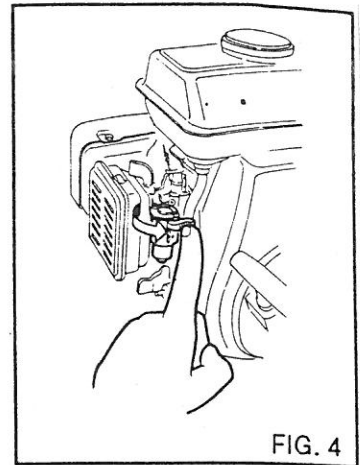

FIG. 4
2) Turn the petrol valve to **ON** position (fig. 4) (Honda motor).
3) Turn the petrol valve to **OFF** position (Honda motor) (fig. 4).